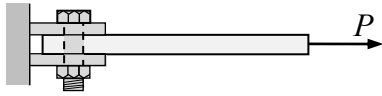

Figure 1
1. A steel plate 25 mm wide and 10 mm thick is connected to one end using a steel bolt of 10 mm diameter as shown in Fig. 1. If the ultimate stress of steel in tension and shear are 280 MPa and 360 MPa respectively, estimate the maximum safe load P (ignore bond-stress and the presence of the bolt-hole). Use factors of safety of 1.5 and 2 in tension and shear respectively. [4]